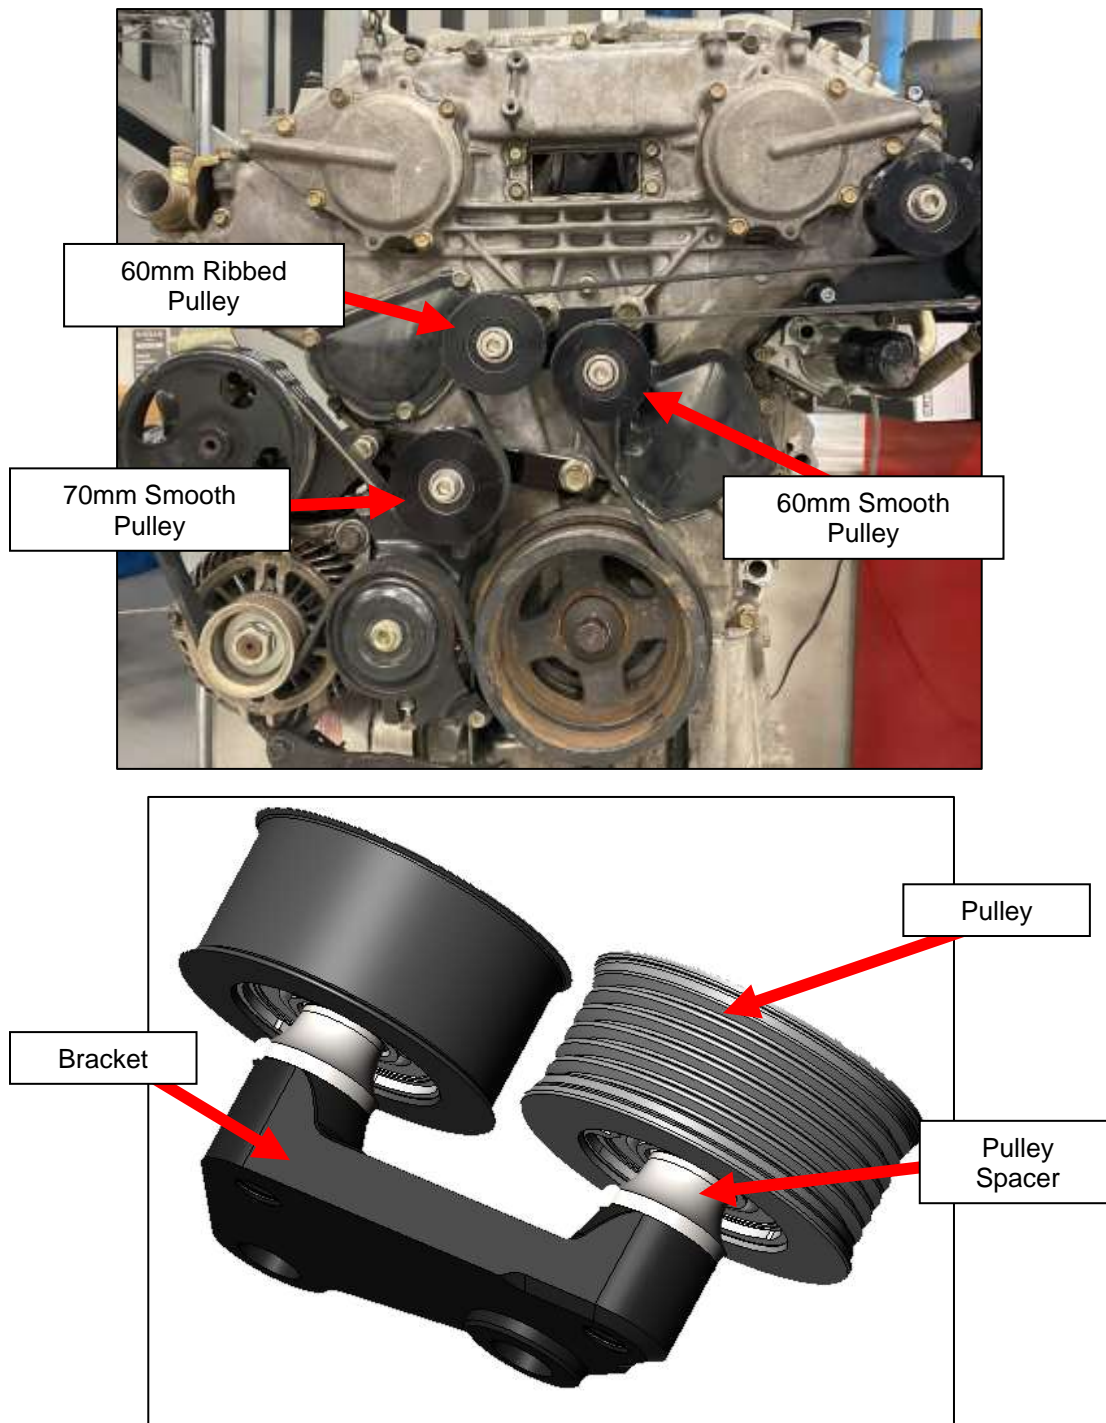

Figure 44
9. **75mm Main Pulley Users:** Locate the (1) one Smooth 60mm Pulley (#62), (1) one Smooth 70mm Pulley (#62), (1) one 60mm Ribbed Pulley (#63), (3) three M10 x 50mm Socket Head Bolts (#15), and (3) three Pulley Spacers (#6). Install the 70mm Smooth Pulley with a spacer behind it on the Single Idler Bracket. Install the Ribbed Pulley with a Spacer on the left of the Dual Idler Bracket, and the 60mm Smooth Pulley with a Spacer on the right. The order will be **BOLT** → **PULLEY** → **SPACER** → **BRACKET**. Torque to **38 ft-lbs**. *Figure 44.*
10. Locate (1) one 60mm Smooth Pulley (#62), (1) one 60mm Ribbed Pulley (#63), (2) two Pulley Spacers (#6) and (2) two M10 x 50mm Socket Head Screws (#15). Install the Smooth Pulley with a Spacer on the left side of the Main Super Charger Bracket. Install the Ribbed Pulley on the Right side of the Main Super Charger Bracket. The order should be **BOLT** → **PULLEY** → **SPACER** → **BRACKET**. Torque the M10 Bolts to **38 ft-lbs**. *Figure 44.*